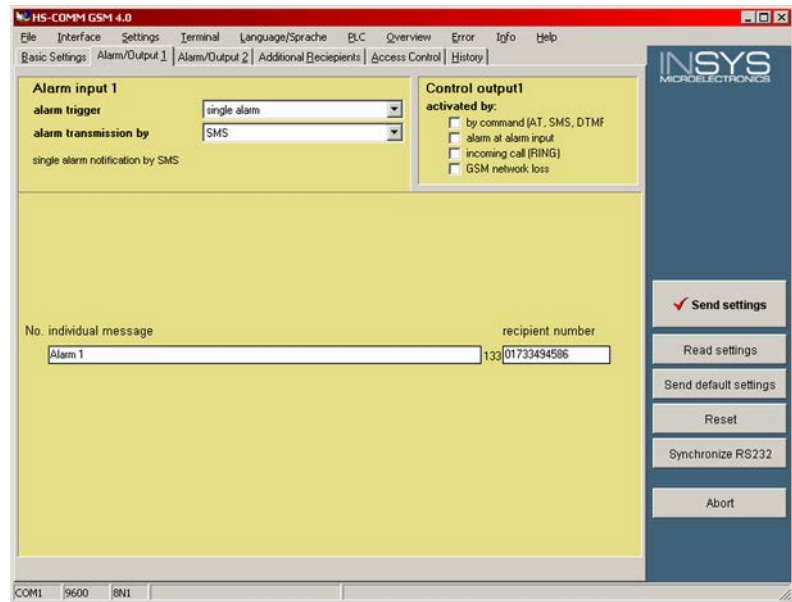

Fig. 200: GSM modem - alarm/output 1
2. ➤ Set up the modem as shown in ( Fig. 200) on the “Alarm/Output 1” tab.